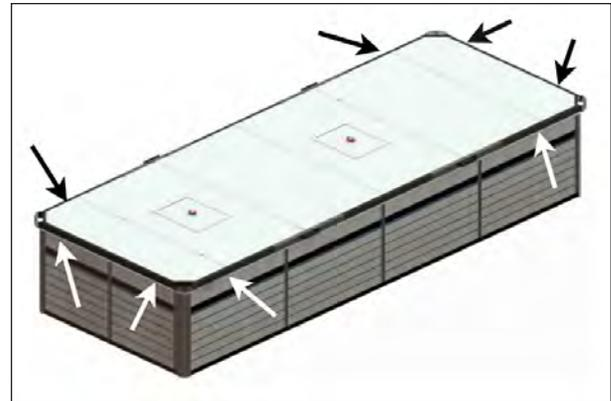

FIGURE 73: TOP COVER POSITIONING WITH THE DRILLING TEMPLATE AND THE SPA
3. Repeat steps 1 and 2 for all four sides of the cover as shown in Figure 73. Using the drilling template where the arrows are. This will ensure the cover is centered.